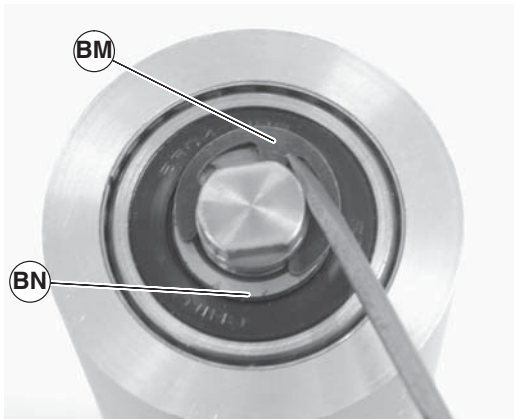

Figure 57
5. Remove the pulley shaft assembly: remove the clip ring (Figure 57, item BM) and washer (BN) from one side of the pulley assembly.